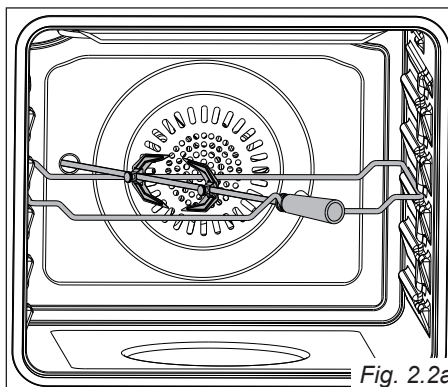

Fig. 2.2a
USE OF THE ROTISSERIE (fig. 2.2a, 2.2b)
- Insert the tray into the lowest rack holders of the oven and insert the rod support into the intermediate rack holders (fig. 2.2a, 2.2b).
- Insert the rod into the motor opening (fig. 2.2a, 2.2b). It is correctly fitted only if the rod does not turn when inserted. It will then rotate only when the spit motor is operating (check the right rotation of the rod).
- Rest the rod onto the support of the spit collar (fig. 2.2a, 2.2b); then remove the grip by turning it to the left.